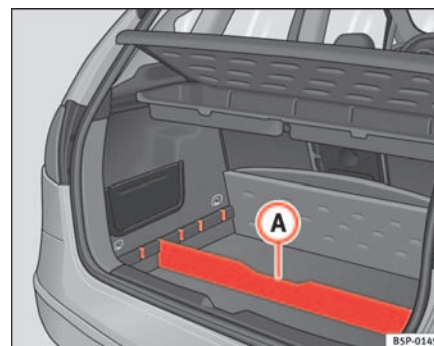

Fig. 105 Luggage compartment divider
- Fit the separator **A**⇒ page 133, fig. 105, into the side grooves depending on the size of the objects to be transported. The onboard tool kit and the spare wheel are located underneath the luggage compartment.